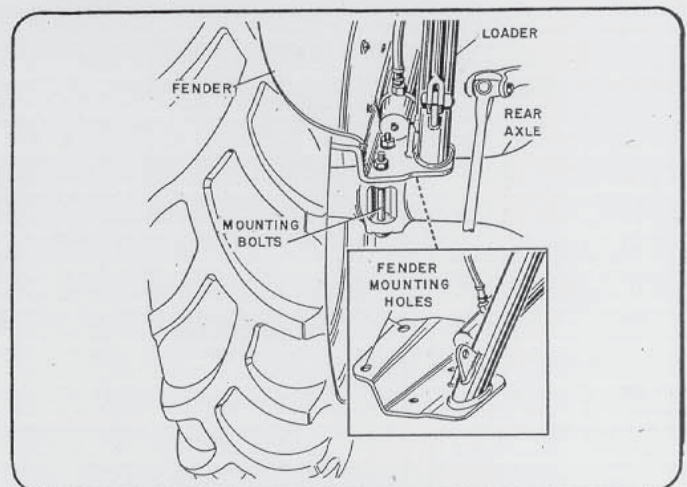

**Figure 4 – Tractor, Front Mounting
7. Remove pins attaching right and left radius rods to front axle, and free forwarding end of radius rods from axle (Figure 4).
11. Connect both radius rods to front axle (Figure 4).